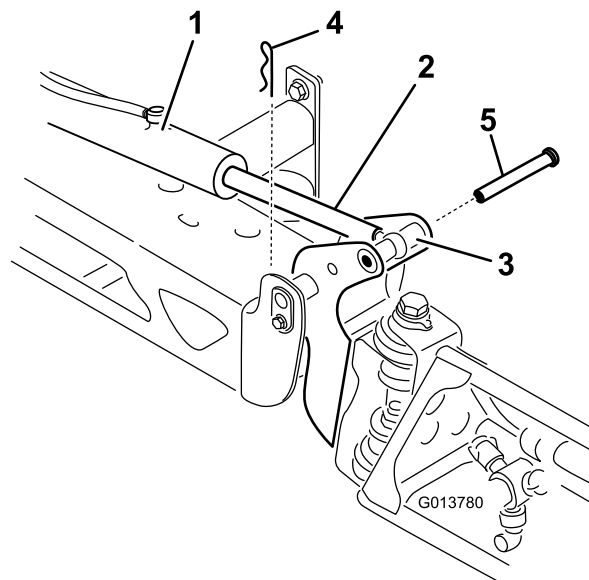

Figure 74
- Remove the cotter pin from the pivot pin (Figure 74).
- Lift up on the boom and remove the pin (Figure 74). Slowly lower the boom to the ground.
- Raise the boom to align the pivot with the actuator rod. While holding the boom, insert the pin through both boom pivot and actuator rod (Figure 74).